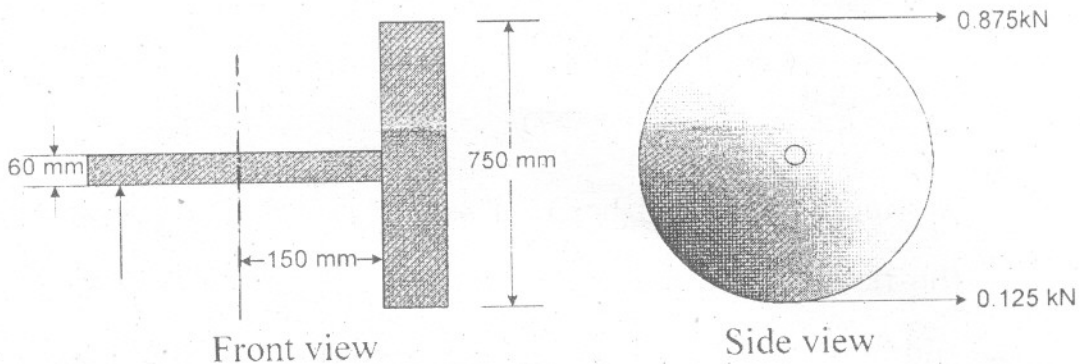

Fig. 7 (b)
- (b) A 60 mm diameter shaft supported a 750 mm diameter pulley weighing 2.5 kN at an overhanging end of the shaft as shown in Fig. 7 (b). Determine the principal stresses at the section 150 mm from overhanging end if the horizontal belt tensions are as shown. [10]